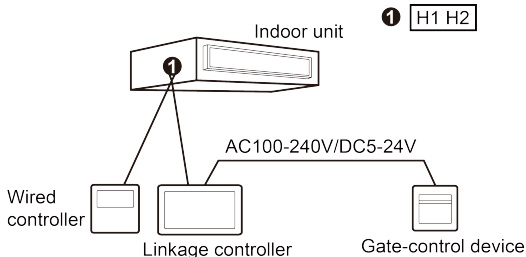

Fig.5.13 Connection fashion 2 of Wired Controller and Gate Control
- ② The linkage controller in figure 5.13 should be set as slave HBS device.
- (3) Power input of gate control card insertion/removal device supported by linkage controller: AC 100-240V~50/60Hz, DC 5~24V. In practice, connect the gate control output power cord with the corresponding power supply interface of linkage controller according to the type of output power of gate-control device (Please refer to Section 4.1 for wire connection of specific interface). The linkage controller will judge the placing and absence of card by detecting the power supply of gate-control